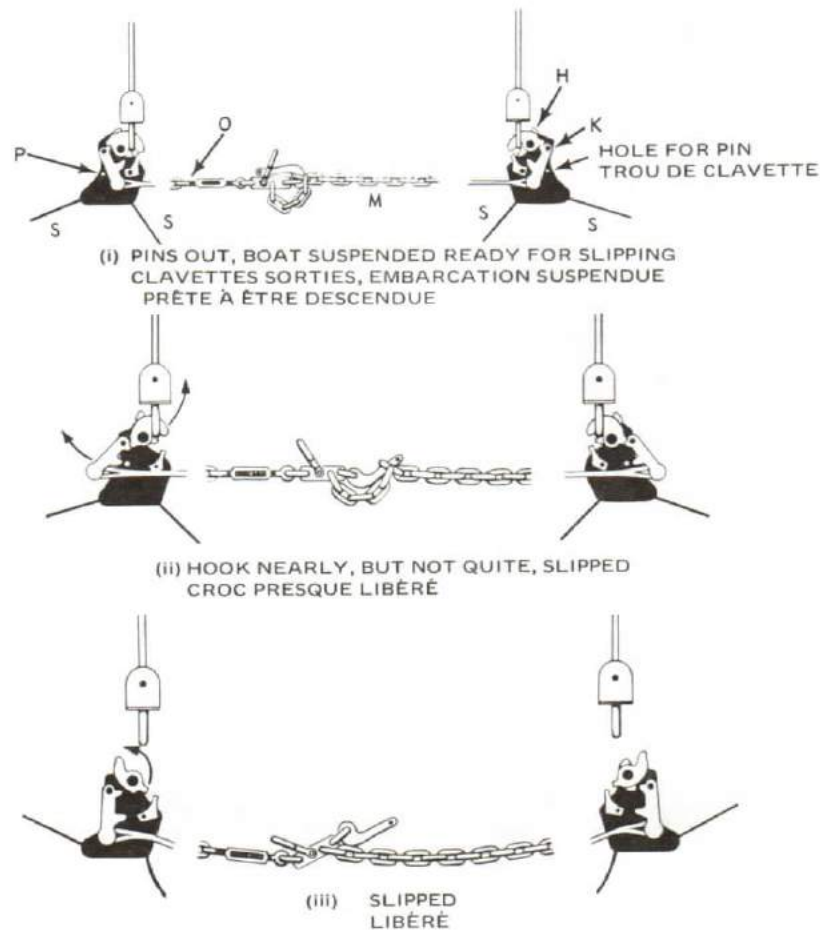

Figure 12-14
2. This gear consists of two tumbling hooks, H in Figure 12-14, so connected as to tumble simultaneously on the release of the screw slip O, controlled by the coxswain.
2. L'appareil se compose de deux crocs de basculement (H dans la figure 12-14), installés de telle façon qu'ils culbutent lorsque le patron libère le ridoir O.